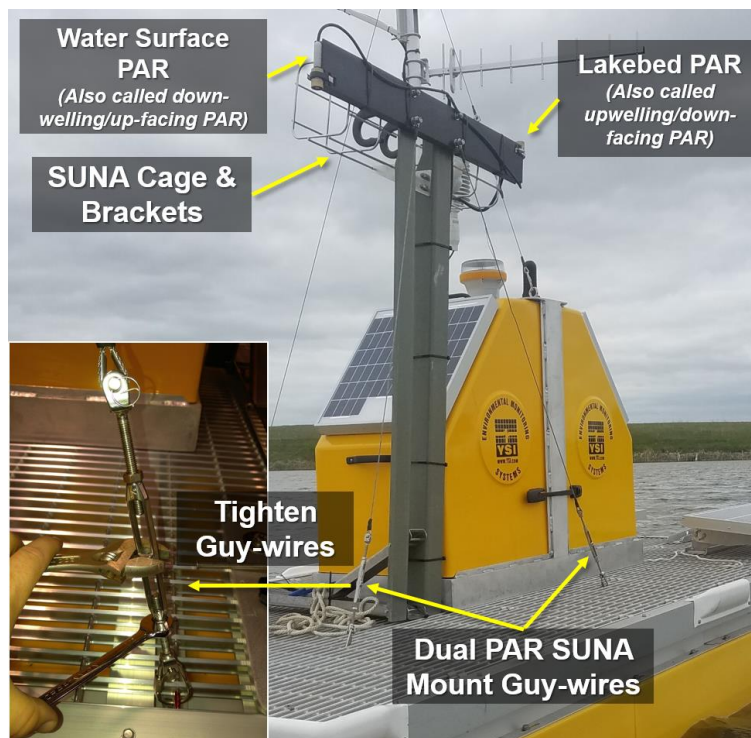

Figure 32. Dual PAR SUNA Mount in an Upright Position with Guy-wires for Transport
8. Secure the Dual PAR SUNA Mount for towing by tightening the two guy-wires when the mount is upright on the floating deck (see Figure 32). Tighten guy-wires for stability: *tight, but low in tension*.
- b. Retighten the jam nuts after tightening the turnbuckles (see Figure 32).